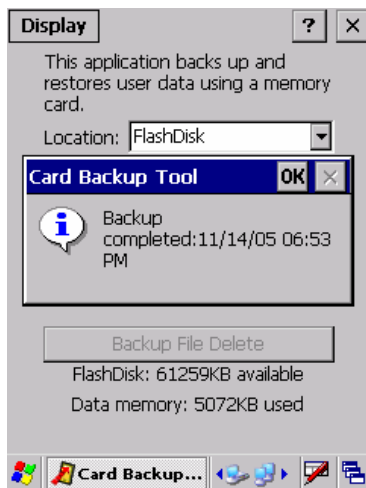

Fig. 3.102
5. The backup is complete when the window in Fig. 3.102 appears. Tap **OK** button to close the window.